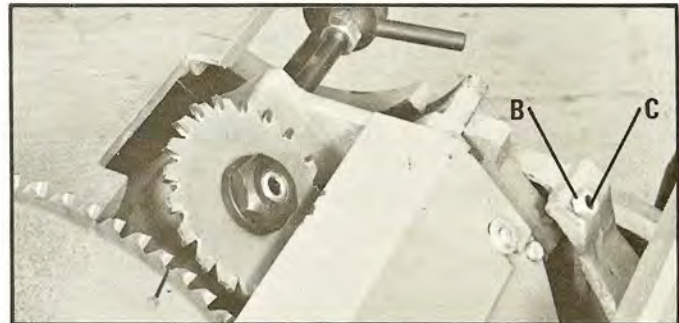

Fig. 38
5. If the blade is not at 45 degrees to the table, loosen lock nut (B) Fig. 38, and back off set screw (C). Turn blade tilting handwheel until you are certain the blade is at 45 degrees to the table. Then turn set screw (C) in until it bottoms and tighten lock nut (B).